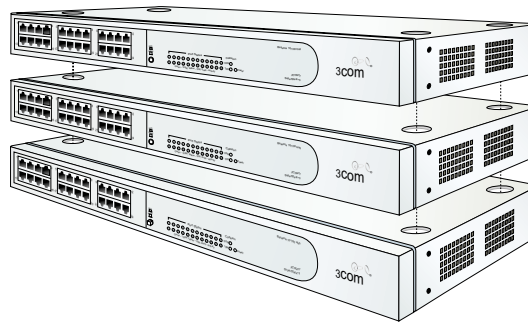

Figure 2-1 Stacked Ethernet Hubs
3. Stack the remaining hubs on top of the first hub as shown in Figure 2-1 on page 2-7. Ensure the adhesive rubber pads on the underside of a hub align with the recesses on the top of the hub below.